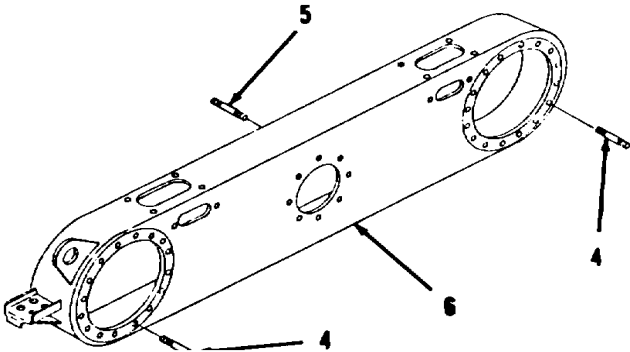

Figure 5-145.
- 1. Remove 12 studs (4, Figure 5-145) from outside of tandem drive housing (6).
- 2. Remove 15 studs (5) from inside of tandem drive housing (6).
- 1. Apply thread sealant to 15 studs (5, Figure 5-145) on inside of tandem drive housing (6) and install.
- 2. Apply thread sealant to 12 studs (4) on outside of tandem drive housing (6) and install.